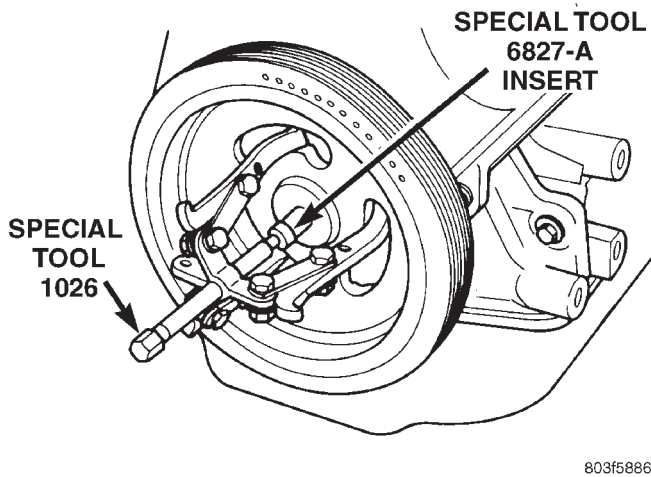

Fig. 75 Crankshaft Damper—Removal
(5) Remove crankshaft damper bolt. Remove damper using the large side of Special Tool 1026 and insert 6827-A (Fig. 75).